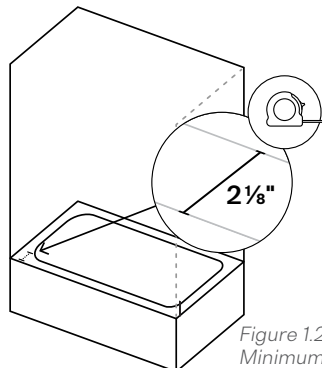

Figure 1.2 Astro Square Slider Minimum Threshold Width
- Verify Threshold Width** - If your shower installation features a raised threshold, the completed threshold must be a minimum width of **2 ⅝"** or this model will not fit your space. (Fig. 1.2)